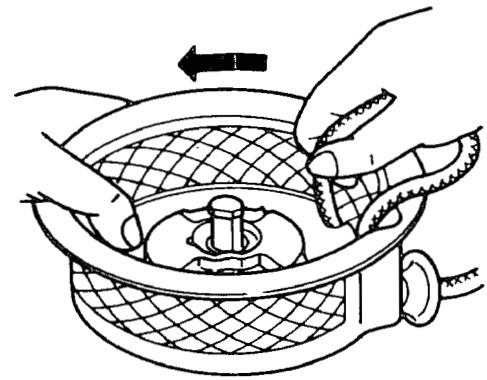

FIG. 84
- (3) Before putting the reel in the starter case, wind the starter rope in the arrowhead direction as shown in Fig. 84, and at 2.5 windings take out the rope from the reel notch. Set the reel hook to the inner end of the spring, and put the reel in the starter case. (At this time, confirm that the reel hook is duly set to the spring.)